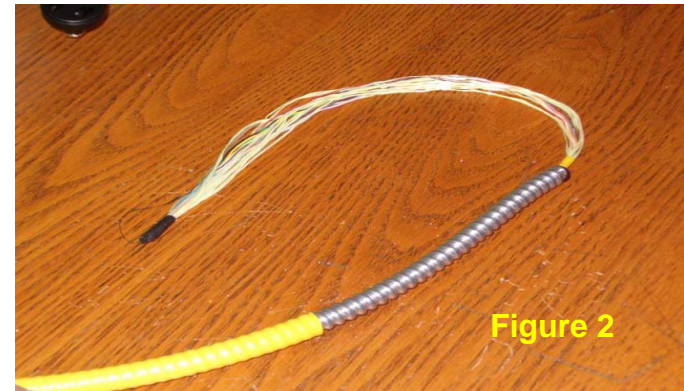

Figure 2
4. If a rip cord is provided with the cable, use the box cutter to carefully ring cut the optical cable sheath one inch from the cable end. Remove the sheath. Locate the rip cord and carefully nick the cable sheath next to the rip cord. Using the narrow neck pliers, wrap the rip cord and cut the sheath until reaching  $\frac{1}{2}$  inch from the armor. Using the shears, remove the sheath to this point. Secure the strength yarns of the cable at the tip using the friction tape. If a rip cord is not present, use the coaxial stripper to ring cut the cable sheath every six inches until reaching within  $\frac{1}{2}$ " of the exposed armor. Remove these cable sheath segments. See Figure 2.